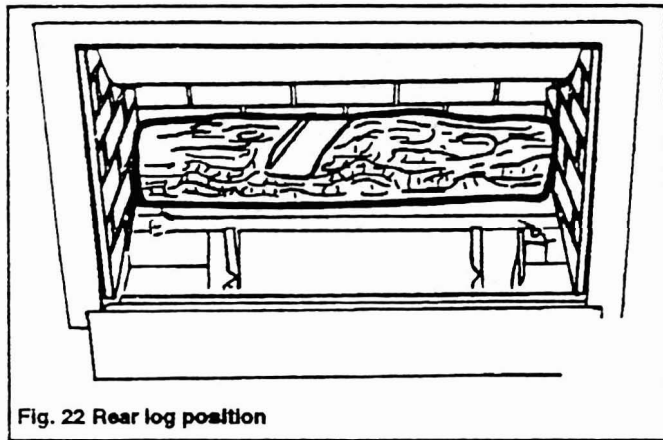

Fig. 22 Rear log position
- 15.3 Place the rear log (the log without a branch) in the retaining cradle behind the rear burner tube with its back against the back wall. Center the log so that the gap to the side wall is the same at each side (see figure 22).